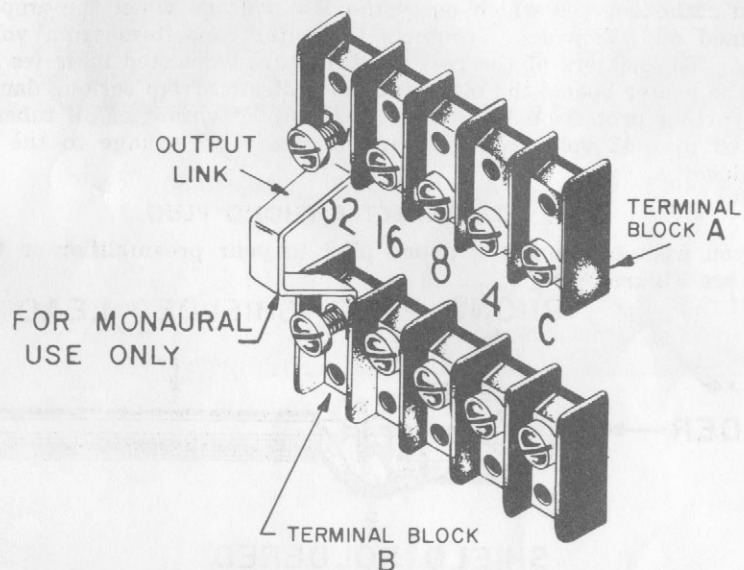

FIGURE 26. INSTALLING THE OUTPUT LINK FOR A 16 OHM SPEAKER
- Install the output link across the correct terminals on speaker terminal blocks A and B, as shown in Figure 26. Notice that the link is placed across the 32 ohm terminals for a 16 ohm speaker. In the same way the link would be across the 16 ohm terminals for an 8 ohm speaker. The 8 ohm speaker IS NOT CONNECTED to the 8 ohm terminal because the nominal output impedance of the amplifier is now half the value marked at the speaker terminals. The reason for this is that the output link has placed the A and B channels in parallel.